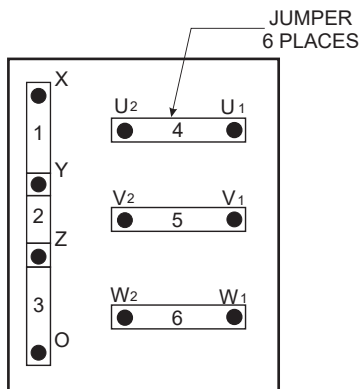

Figure 24. Voltage Change-Over Board
Various output voltages can be obtained using the UVWO output terminal lugs. The voltages at the terminals are dependent on the placement of the jumper plates (6) on the **voltage change-over board** (Figure 24) and the adjustment of the **voltage regulator**.
1. Jumper the voltage change-over board for 240-volt operation as shown in Figure 24.
1. Make sure the voltage change-over board is jumpered for 240-volt operation as shown in Figure 24.